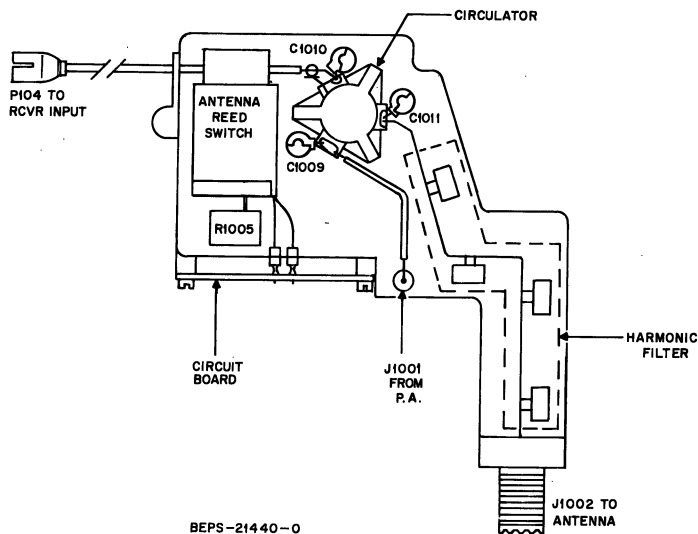

Figure 37.
(1) Tests to Assure Antenna Switch Network Is Faulty
Step 1. Disable the transmitter by (1) removing the red lead fuse (A+ line), (2) removing the exciter filter input(s) at J301 or J401 or both, or (3) removing the channel element.
Step 6. Check the dc resistance across R1005 (see Figure 37); it should be 50 ohms $\pm 10\%$. Energize the relay (white wire to A- yellow wire to A+) the resistance should drop to a short circuit. If it does not, check for a poor connections to the resistor. If the connection is good the relay should be replaced.
(2) Removal of Reed Switch
Step 4. Unsolder the three wires going to the feed-through capacitors and the 50 ohm resistor, taking care not to damage the 50 ohm resistor (see Figure 37).
(3) Installation of New Reed Switch Assembly 1V80747B76
Step 3. Solder the connecting wires to the feed-through capacitors and the 50 ohm load. Also solder the shielded coax cable to the circulator in place (see Figure 37).
(4) Antenna Switch Network Retuning
Step 5. Adjust variable capacitor C1009 (see Figure 37) on the transmitter leg of the circulator for minimum indication on the rf voltmeter.